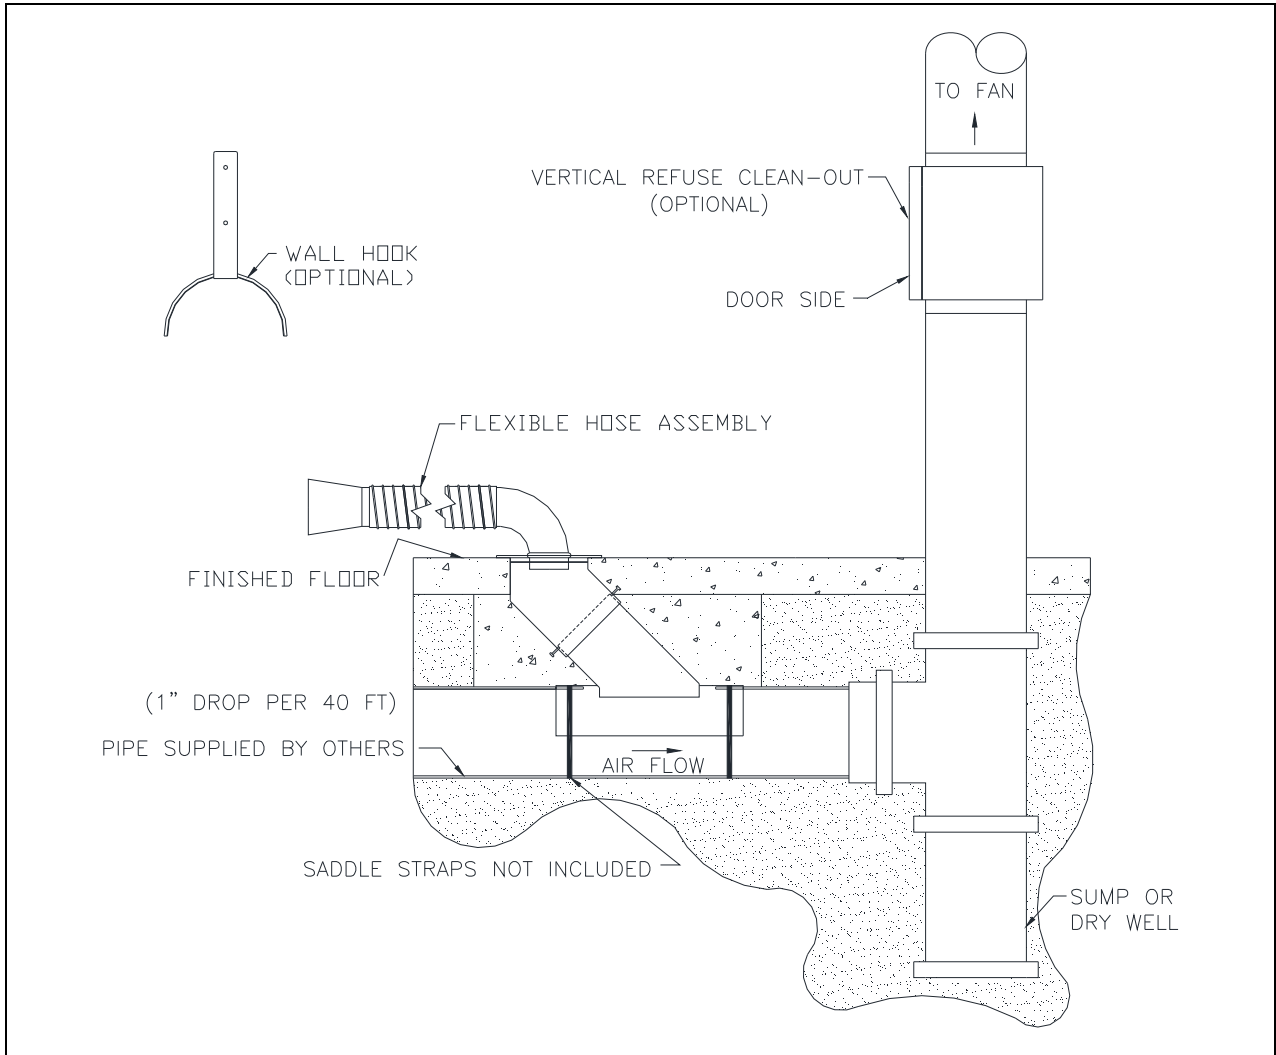

FIG 1
4. Apply duct sealant around the opening. Center the saddle over the opening and fasten it to the pipe using saddle straps or other suited hardware. Be certain that all the saddles are inclined in the proper direction to ensure proper airflow (See FIG 1).